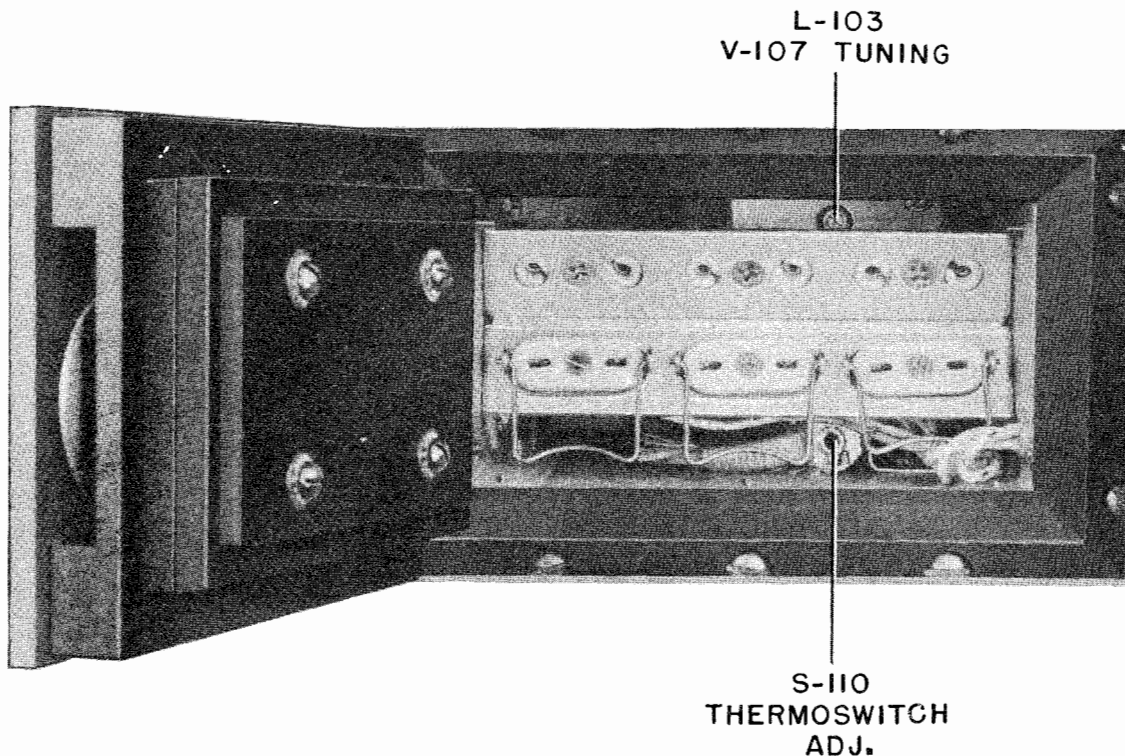

Figure 7-12. Alignment Adjustment Locations, Front View of Amplifier Oscillator AM-655/URT with Panel Door Open
Step 1. Open the oven door. Turn the screwdriver adjustment on the thermostat S-110 in a counterclockwise direction to increase the temperature at which the thermoswitch opens. See Figure 7-12.